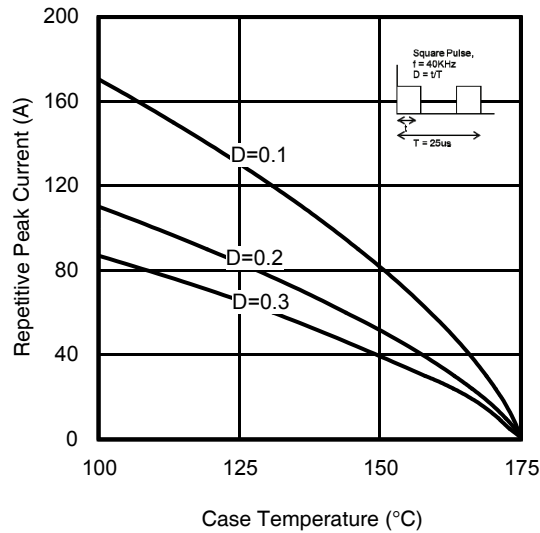

Fig 26. Maximum Diode Repetitive Forward Peak Current vs. Case Temperature
- ① $V_{CC} = 80\% (V_{CES}), V_{GE} = 20V, R_g = 4.7\Omega, L = 66\mu H$.
- ② R_{θ} is measured at T_J of approximately 90 $^\circ\text{C}$.
- ③ Refer to AN-1086 for guidelines for measuring $V_{(BR)CES}$ safely.
- ④ Pulse width limited by max. junction temperature.
- ⑤ Values influenced by parasitic L and C in measurement.
- ⑥ fsw = 40KHz, refer to figure 26.